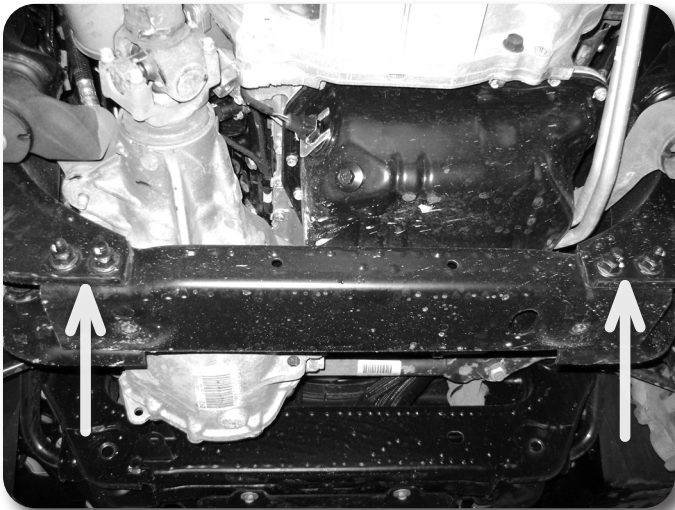

Figure 18
25. Remove the four bolts mounting the rear cross member to the rear lower control arm pockets **Figure 18**. Remove the cross member from the vehicle. The cross member and hardware will not be reused.